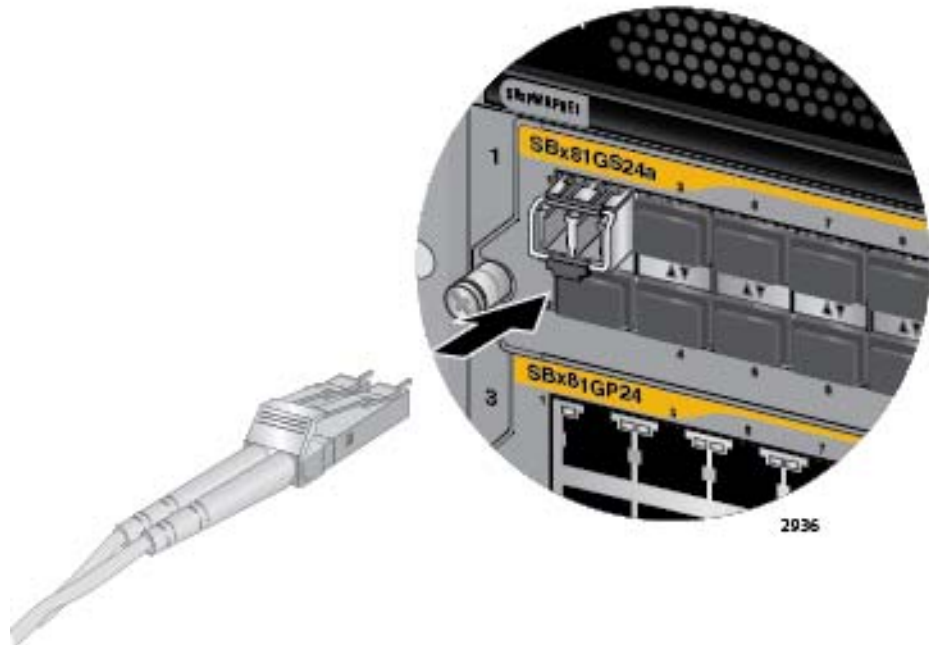

Figure 101. Attaching a Fiber Optic Cable to a Transceiver
6. Connect the fiber optic cable to the port on the transceiver, as shown in Figure 101. The connector should snap into the port.